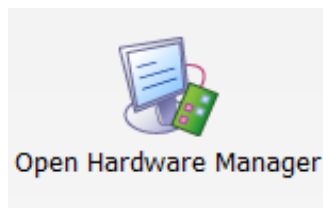

Figure A-2: Open Hardware Manager
3. Select Open Hardware Manager (see Figure A-2).